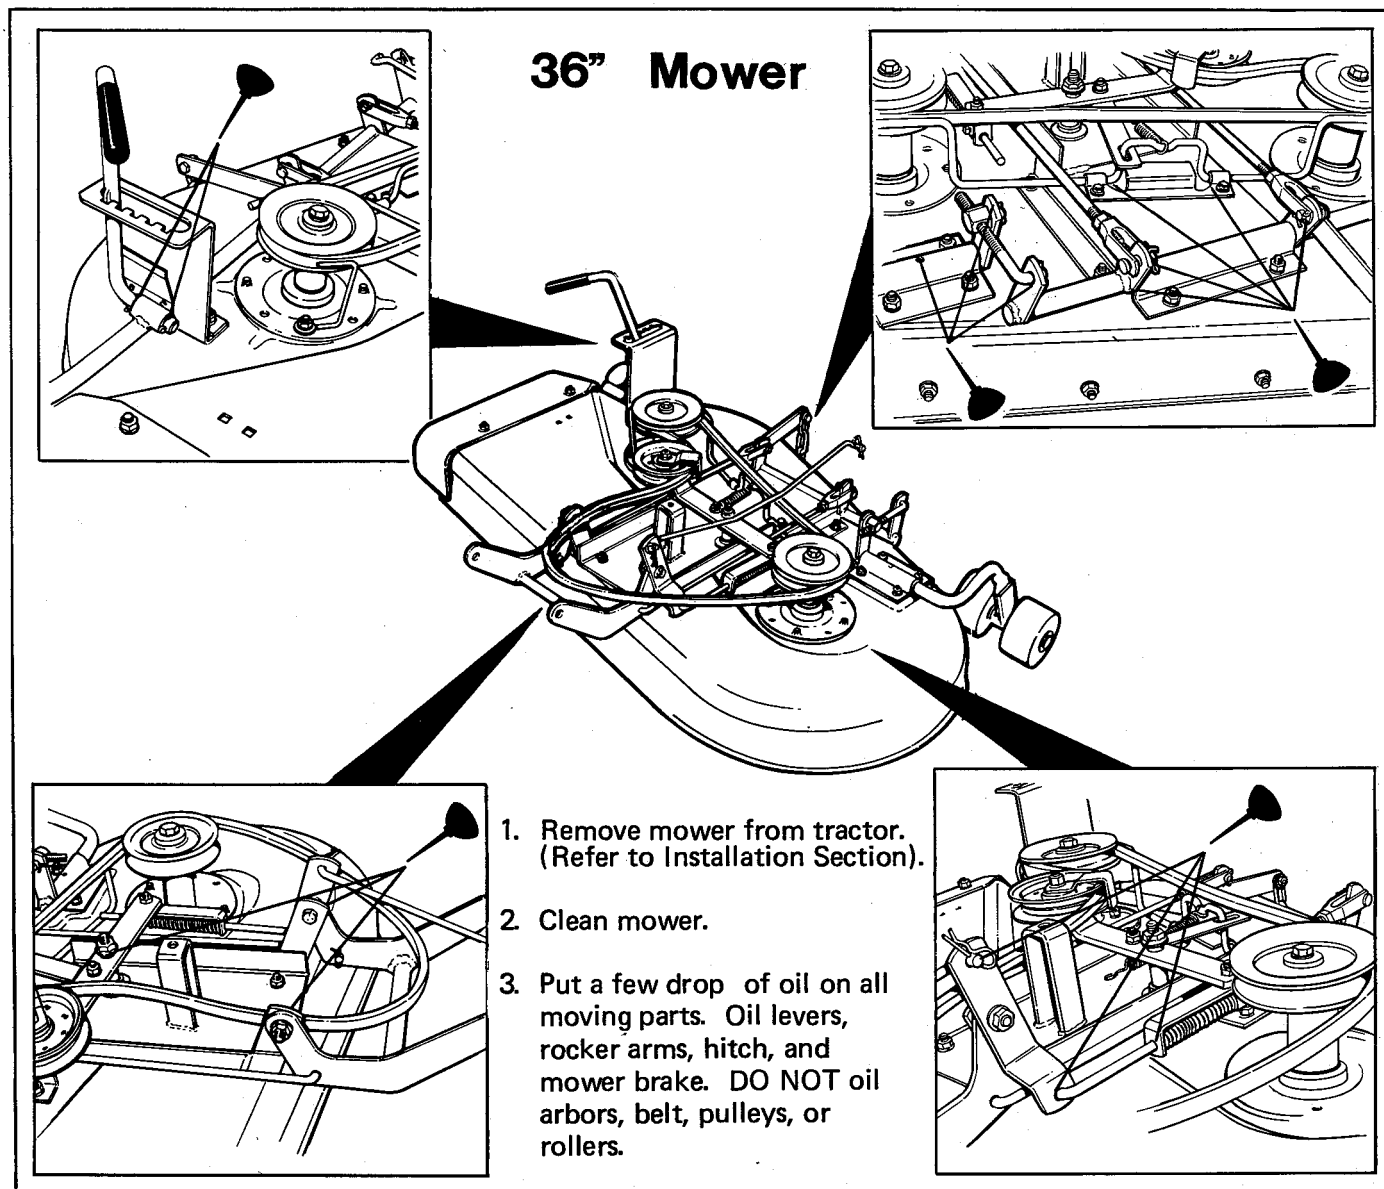

Figure 21. Lubricate Mower (25-Hour Care)
4. Lubricate the mower. (See figure 21 for the 36" mower, or figure 22 for the 42" mower).